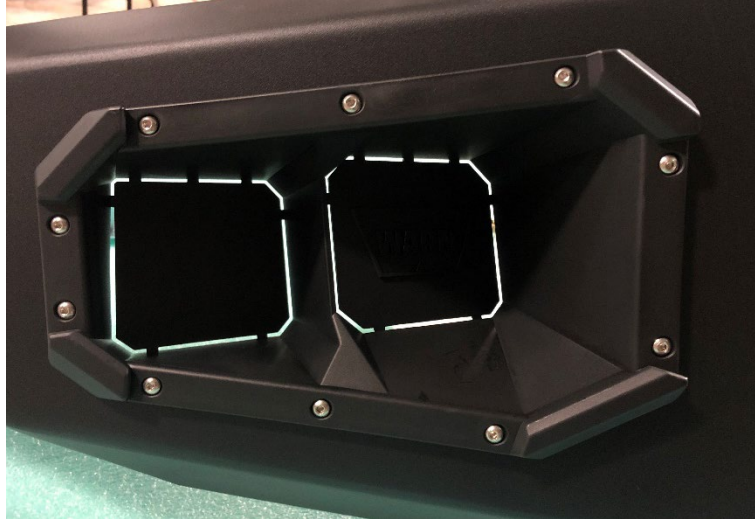

Figure 26
24. After the epoxy has cured, fully seat all four (4) sensors into the sensor housings being mindful not to distort the rubber sensor isolator that sits around the sensor tip. Be sure both sides of the sensor housing are fully clipped on the sensor.
26. Install the light housings (94888-94889) into the bumper using the #10 stainless steel bolts, flat/lock washers and nuts (50250-HW). (Figure 26)